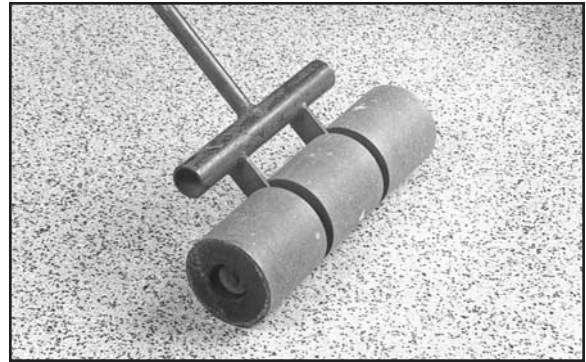

Fig. 6. Roll seam with a 100-pound (45 kilogram) floor covering roller.
- After the flooring material has been placed into the wet adhesive, it must be rolled immediately with a 3-section, steel, 100-pound (45 kilogram) or heavier flooring roller. Rolling flattens the adhesive ridges formed by the notched trowel, and embeds the backing tightly against the subfloor into the wet adhesive. (Figure 6)